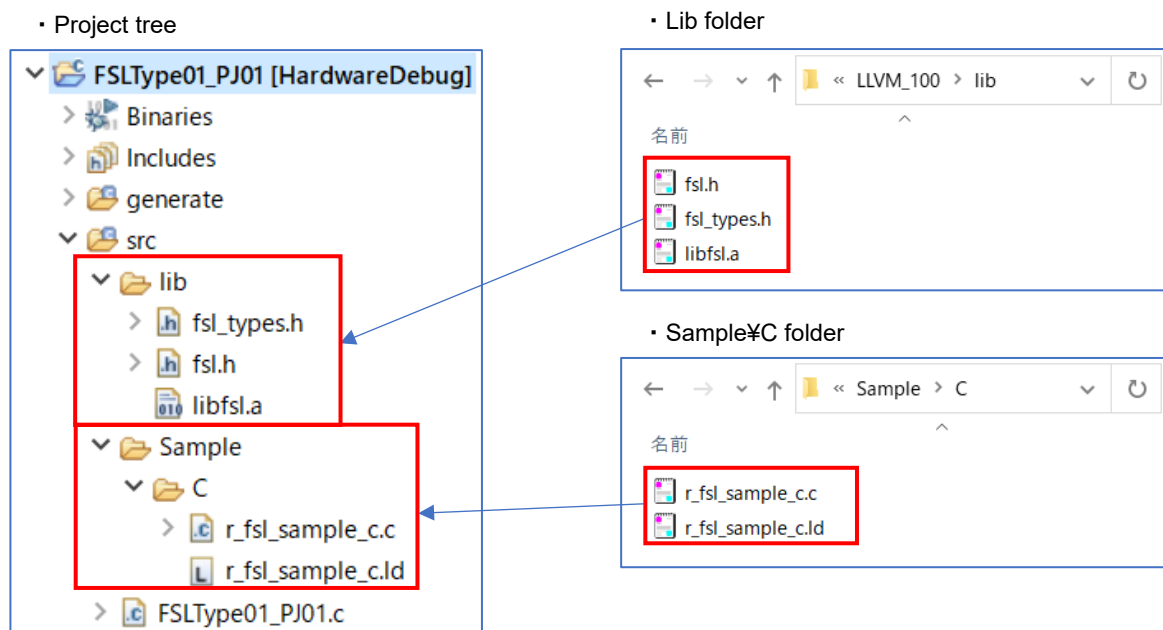

Figure 7-15. Specifying the Source and Include Files (LLVM)
- LLVM: Register the flash self-programming library files “fsl.h”, “fsl_types.h”, “libfsl.a”, “r_fsl_sample_c.c” and “r_fsl_sample_c.ld” in the “src” folder output by e² studio. (Figure 7-15)